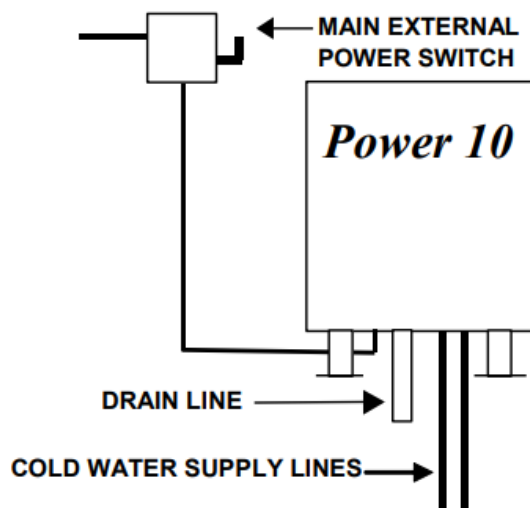

Figure 3-4
3. A main disconnect switch and a separate fuse or breaker should be installed near the unit as shown in Figure 3-4. Throughout the remainder of this manual the fused disconnect switch is referred to as the main external power switch.